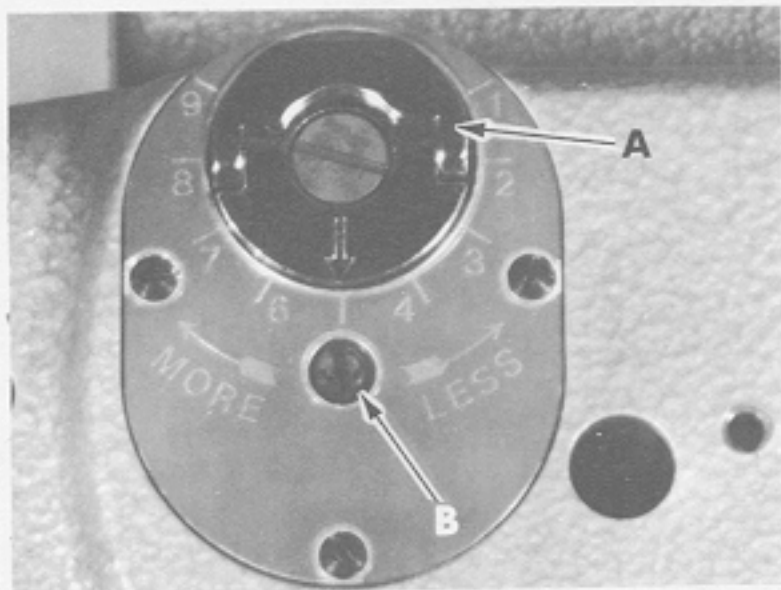

Fig. 18
Ridge former regulator (A, Fig. 18) controls the amount of needle penetration at maximum penetration (9 on the dial). The needle should graze the ridge former disc enough to note the needle lifting off of the needle guide of presser foot. If adjustment is required. Remove locking screw (B) and turn adjusting screw (located beneath same) as required. Replace and tighten locking screw (B). The needle moving from left to right should be timed with the ridge former so that when the ridge former has reached its farthest travel to the rear, the point of needle is over the center of the width of the ridge former.